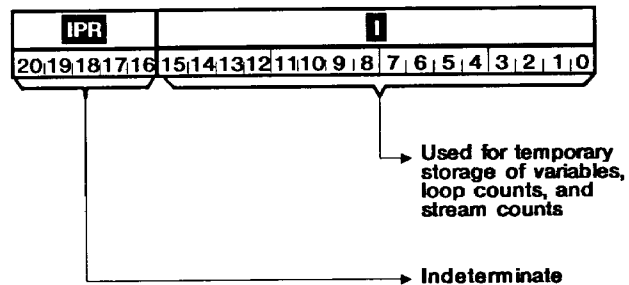

FIGURE 12. RETURN STACK (I and IPR) BIT FIELD ASSIGNMENTS
I: The **Index Register** contains 16 bits of the 21-bit top element of the Return Stack, and is also used to hold the count for streamed and loop instructions (see Figure 12). In addition, **I** can be used to hold data and can be written from **TOP**. The contents of **I** may be accessed in either the push/pop mode in which values are moved to/from stack memory as required, or in the read/write mode in which the stack memory is not affected. When the Streamed Instruction Mode is used, a value (count) is written to **I** and the next instruction is executed that number of times plus one (i.e. n+1).
IPR : The **Index Page Register** extends the **Index Register (I)** by 5 bits, i.e. when a Return From Subroutine is performed, the **IPR** contains the Code page from which the subroutine was called, and comprises the 5 most significant bits of the top element of the Return Stack. See Figure 12.
The bit fields of the Return Stack take on different assignments, depending upon whether the processor is performing a subroutine operation, as indicated in Figure 12.